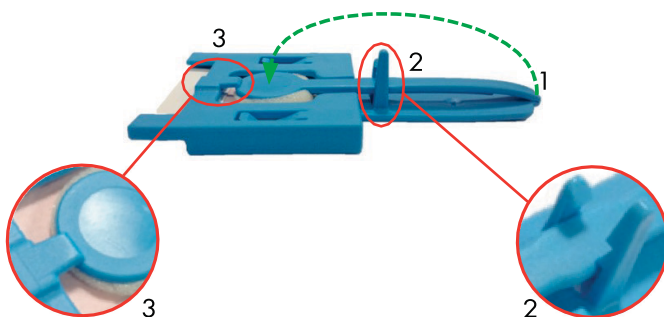

Figure 3. Sample transfer to FTA Card.
7. Fold the device at the hinge (1), and press the foam head onto the FTA Card (Figure 3).
8. Ensure that the foam head is held in place with the stem lock in the lowest position (2), and the foam head under the head tab (3).